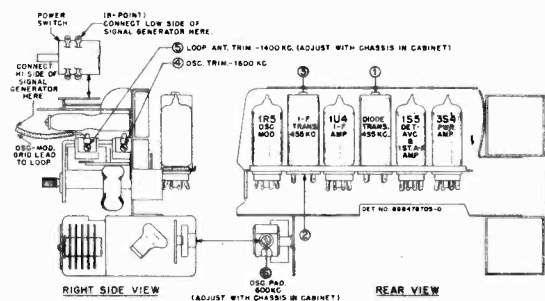

FIGURE 2. CHASSIS HS-62 TUBE & TRIMMER LOCATIONS
(Refer to Figure 2 for location of all alignment trimmers and cores)
* A convenient point for these connections is the stator of the loop section of the tuning capacitor and the rear left hand lug on the power switch. See Figure 2.